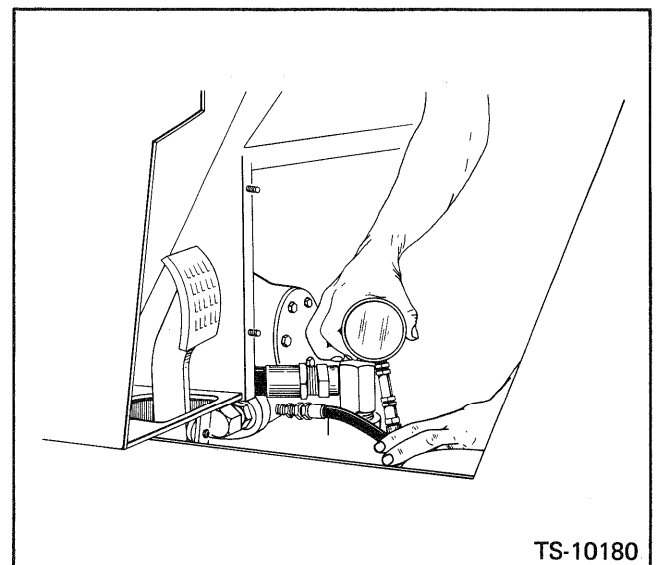

Fig. 5-2 Check Converter OUT Pressure
2. Install a gauge at the converter **OUT** pressure port located below the sender unit on the rear of the converter. Fig. 5-2.